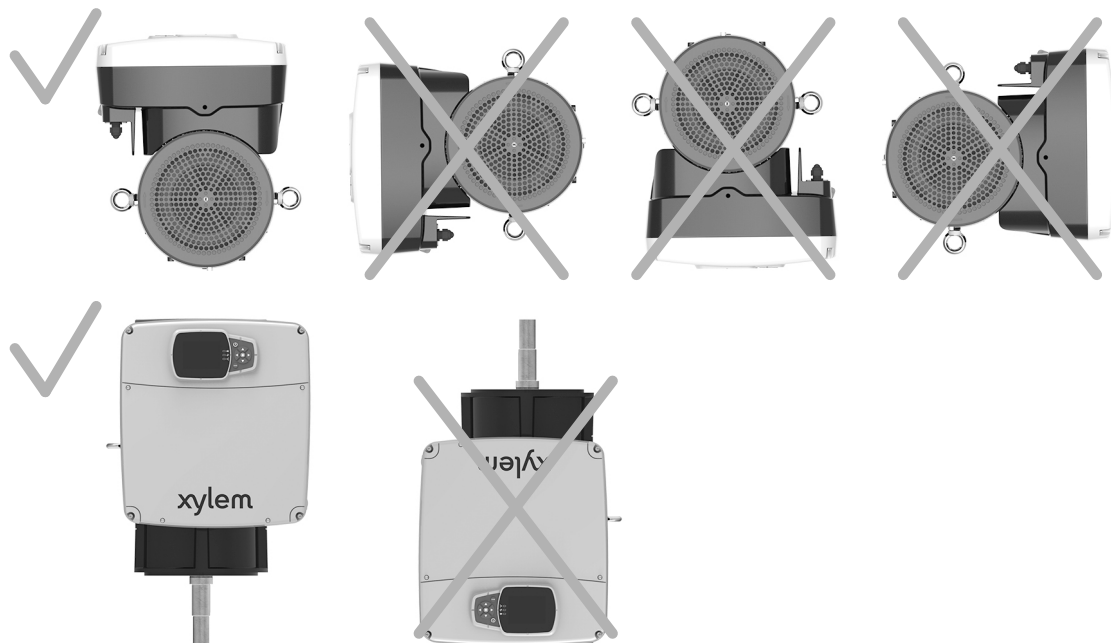

Figure 4: Permitted positions
- Position the unit as shown in Figure 4.